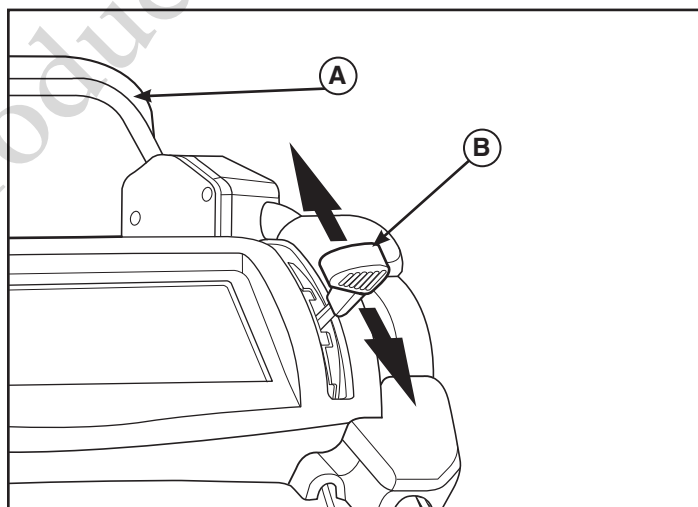

Figure 6
1. Lift the drive control bar (**A**, Figure 6) up against the handle to engage the rear-wheel drive system.